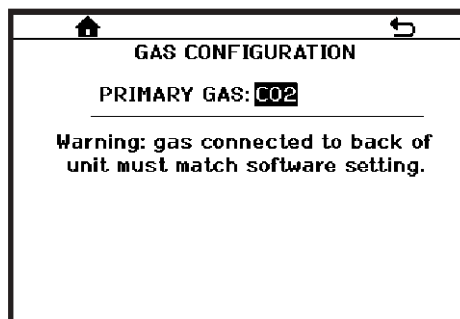

Figure 7.17
- **GAS CONFIGURATION:** Used to display and, based on dispenser model, select the gas that will be used in the dispenser (Figures 7.17 and 7.18).
- For standard dispensers with no multi-gas or multi-drink functionality (Figure 7.17) this is the gas (CO2 or NITROGEN as determined by dispenser configuration) that is used for operating the water pump, active charge system, and the gas that will be injected into the barrels.